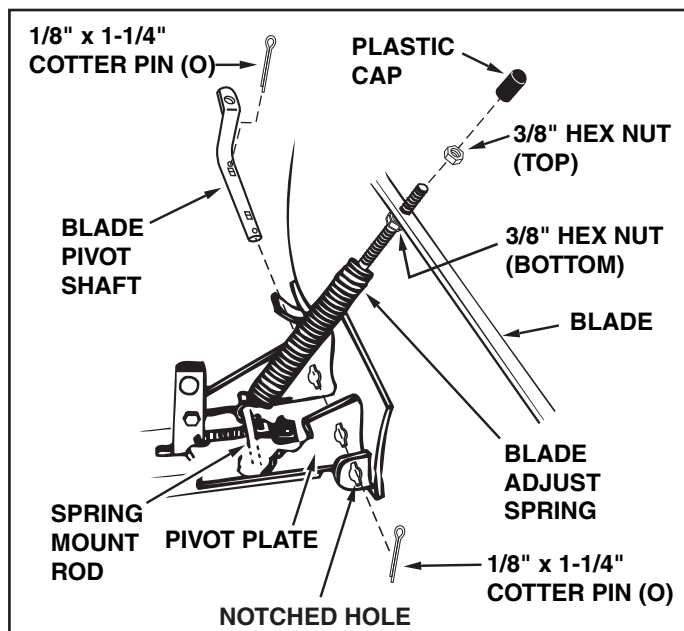

FIGURE 14 (Right Hand Side View)
26. To attach the blade to the channel assembly, align the notched holes in the pivot plate with the notched holes in the blade. Insert a 1/8" x 1-1/4" cotter pin (O) down through the hole at the bend in the blade pivot shaft. Spread the ends of the pin. From the left side insert the blade pivot shaft, bend facing top of blade, through the notched holes. Secure the shaft with another 1/8" x 1-1/4" cotter pin (O) through the end hole in the shaft. Spread the ends of the pin. See figure 14.
27. Remove the plastic cap and one 3/8" hex nut from the bolt in the blade adjust spring. Adjust the remaining 3/8" hex nut down approximately 1" onto the bolt threads. Hook the spring over the spring mount rod. Place the bolt up through the hole in the top edge of the blade and reassemble the other 3/8" hex nut to the bolt and tighten down against the top edge of the blade. Replace the plastic cap on the end of the bolt. See figure 14.
1. The tension of the blade adjust spring may be altered to permit the blade to tilt forward to bypass solid obstructions. To change the spring tension, adjust the nuts at upper end of the spring bolt. Standing in front of blade, turn the nuts counterclockwise to relieve tension and clockwise to increase tension. Refer to figure 14 on page 7.